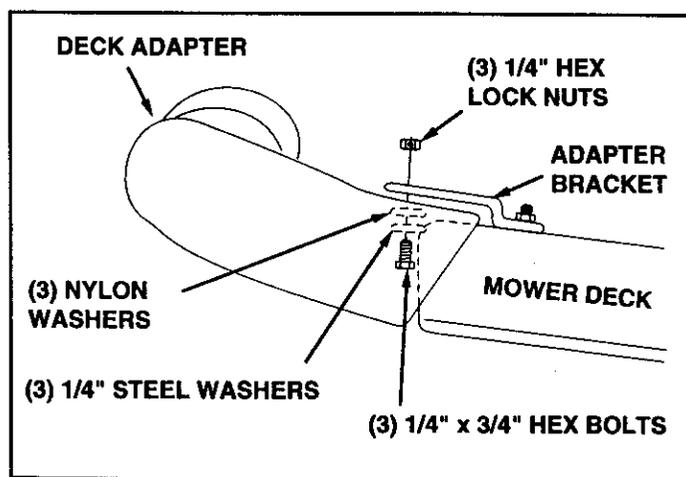

FIGURE 32
- With deck adapter positioned correctly over the discharge opening, use the adapter bracket as a template and drill three 9/32" diameter holes in the top of the deck adapter. See figure 32.
- Bolt deck adapter to bracket using three 1/4" x 3/4" bolts, nylon washers, 1/4" flat washers and 1/4" hex lock nuts. Nylon washers should be against the inside of the deck adapter. See figure 32.